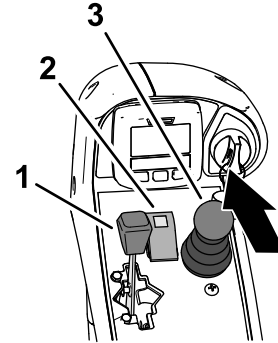

Figure 46
2. Ensure that the PTO switch is set to the DISENGAGE position (Figure 46).